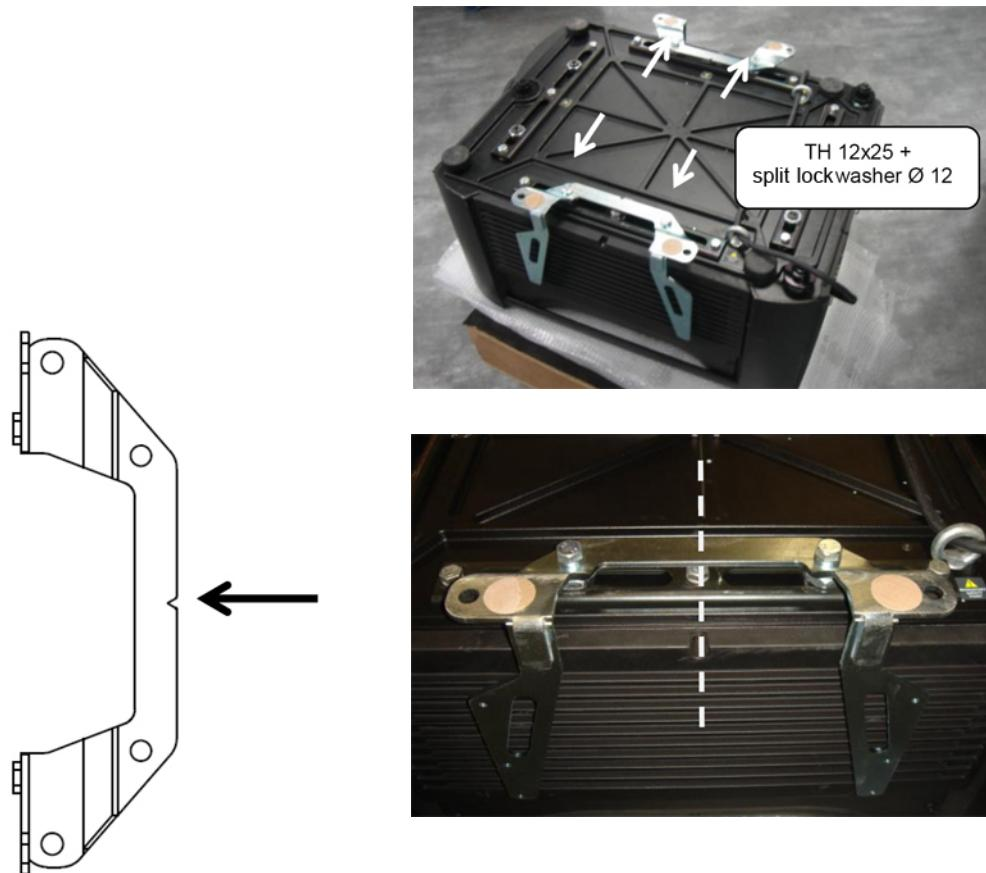

Figure 3-27 Attach the Adaptor Plates to the Projector
2. Attach the Roadster adaptor plates to the bottom of the projector (**Figure 3-27**) in the orientation shown using (4) TH 12x25 screws and (4) 12mm split lock washers. Note that the notch on each adaptor plate must align with the screw heads as shown at bottom right. Slide the plates then fasten the M12 screws once the plates are aligned.